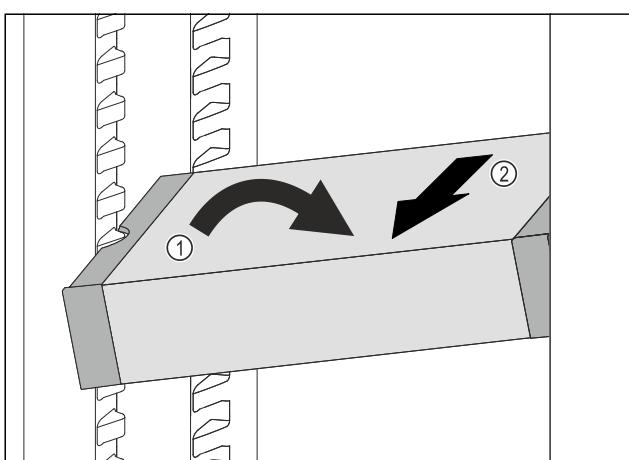

Fig. 97
► Set VarioSafe in refrigerator compartment at an angle. Fig. 97 (1)
► Take VarioSafe out to the front. Fig. 97 (2)